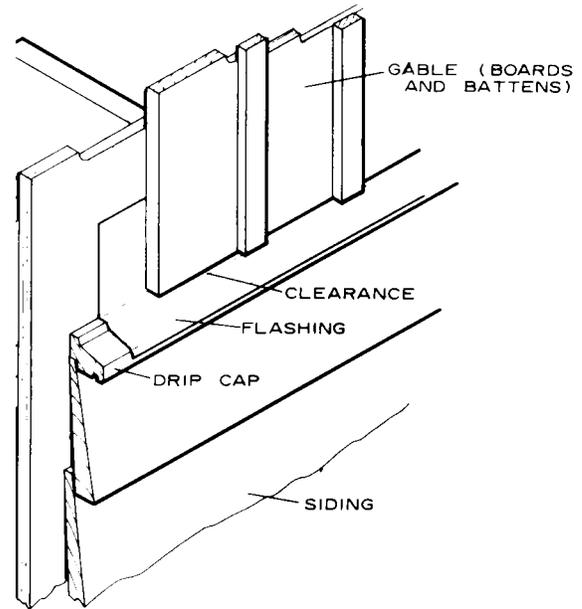

Figure 5. Proper transition from one type of siding to another.
3. Install appropriate molding and metal flashing where two different types of sidings intersect (figure 5).